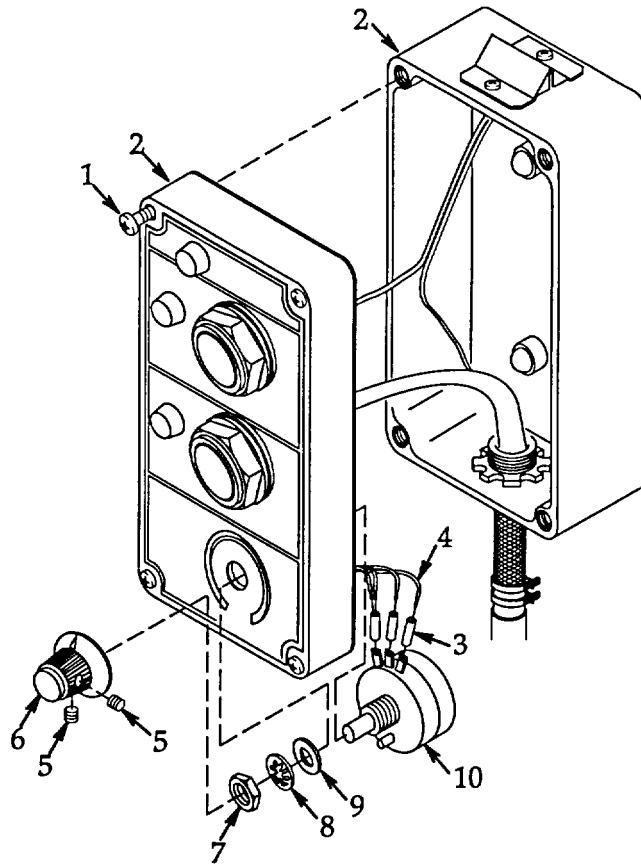

Figure 4-39. Potentiometer (R1).
- a. **Removal.** See figure 4-39.
- (1) Shutdown the FDECU per paragraph 2.4 and disconnect it from power source.
- (2) Loosen four captive screws (1) then separate remote box (2) halves and lay it open being careful not to damage wire leads.
- (3) Remove and discard three pieces of insulation sleeving (3). Tag and unsolder three leads (4) per paragraph 4.16.
- (4) Loosen two set screws (5) and remove knob (6).
- (5) Remove nut (7), lock washer (8), flat washer (9), and potentiometer (10).
- b. **Installation.** See figure 4-39.
- (1) Install potentiometer (10) and align anti-rotation pin. Secure using flat washer (9), lock washer (8), and nut (7).
- (2) Rotate potentiometer (10) shaft to position it at mid-point then install knob (6) with pointer at mid-point and secure by tightening two set screws (5).